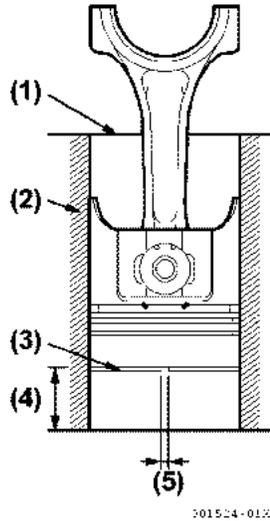

Figure 5-91
- Push the piston ring into a cylinder and measure the piston ring gap with a feeler gauge. Push the ring to about 30 mm (1.2 in.) from the bottom of the cylinder skirt (Figure 5-91).